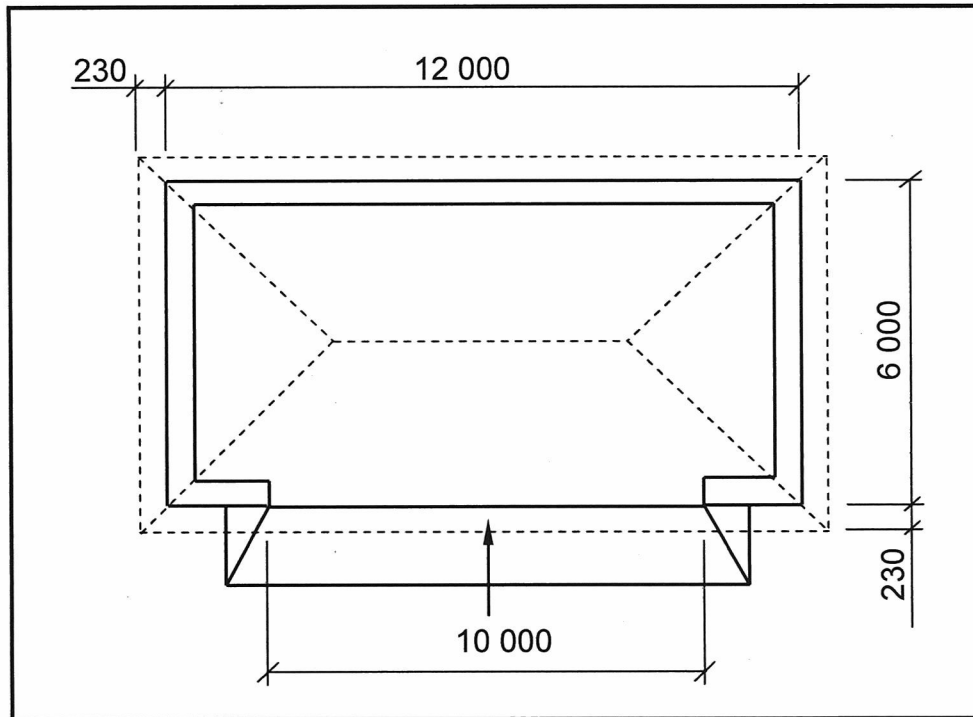

FIGURE 3.5
- Use the assessment criteria on the ANSWER SHEET as a guide. (4)
3.5 FIGURE 3.5 below shows the floor plan of a garage with a hipped roof. The width of the walls is 220 mm. Study the figure and answer the questions that follow. Show ALL calculations.